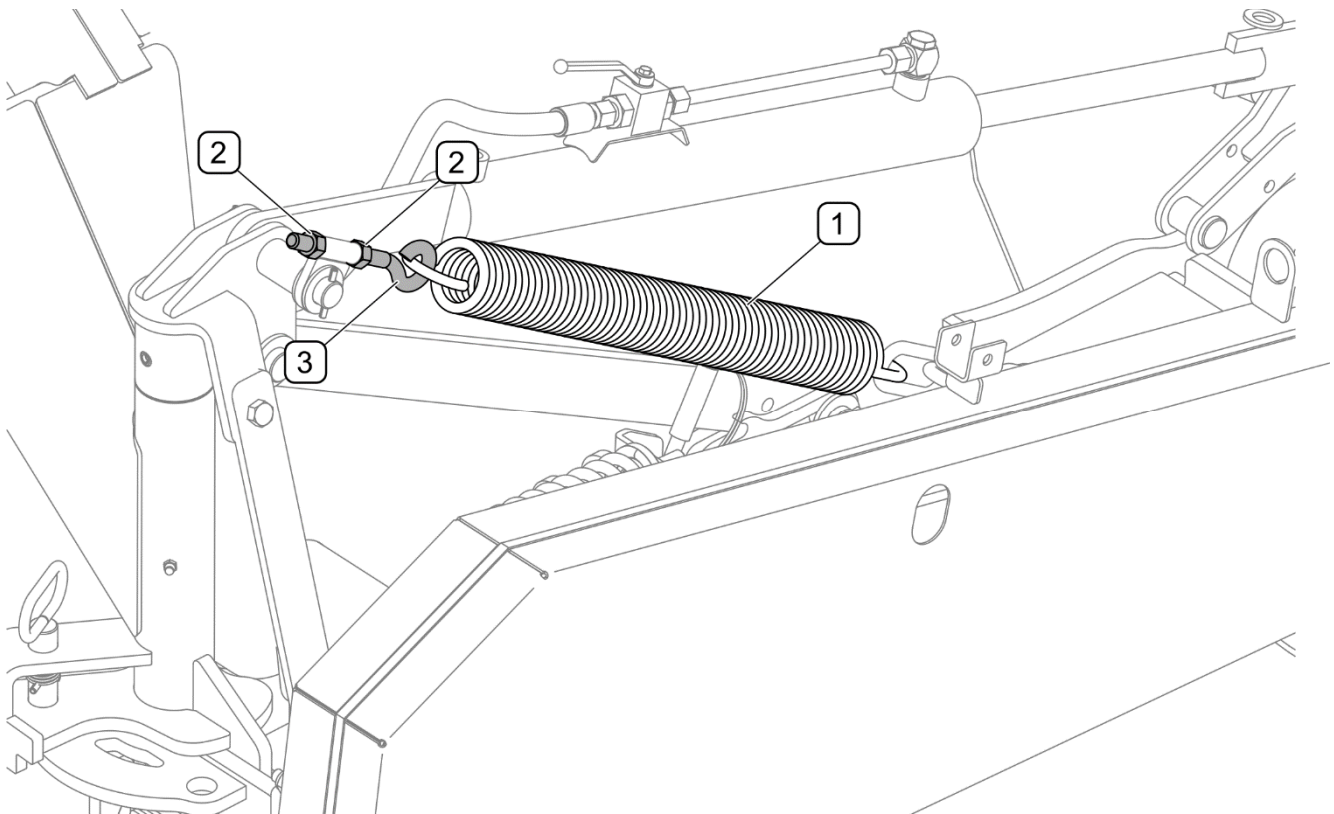

FIGURE 4.12 Adjustment of stay spring
(1) - stay spring; (2) - adjustment nuts; (3) - tensioner;
Stay spring (1) of cutting unit is able to adjust pressure of cutting unit on the ground during cutting (FIGURE 4.12). Depending on the ground and topography, adjust pressure value by changing the tensioning of spring (1) with the right adjustment nut (2) of tensioner (3).